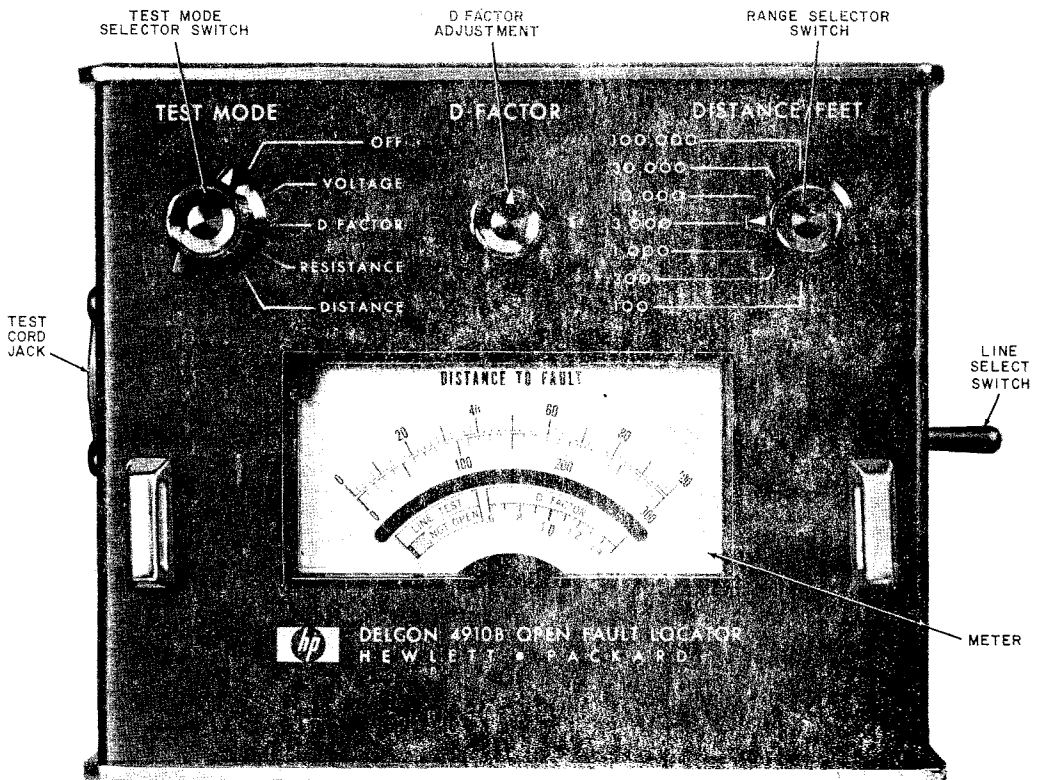

Fig. 4—Meter And Controls On Delcon 4910B
5.03 Distance to the fault is indicated directly in feet on a mirror-type meter (Fig. 4). The meter movement is of the taut-band type which is sensitive and accurate, and capable of withstanding rough handling.
- (a) **Meter Zero:** Set the meter pointer to exactly zero by moving the black disc on the meter face. A depression is provided in the disc so that it may be moved with a pencil or pointed tool (Fig. 4).